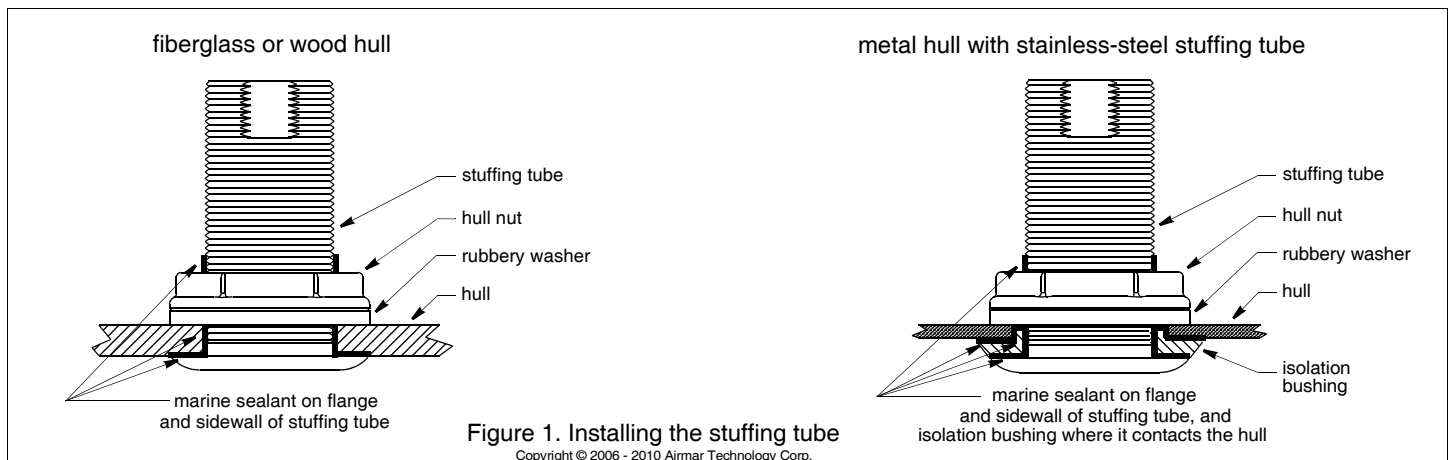

Figure 1. Installing the stuffing tube
- Use marine sealant to seal the hull and hold the hull nut. Apply a 2mm (1/16") thick layer of marine sealant around the flange of the stuffing tube that contacts the hull and up the sidewall of the tube (Figure 1). The sealant must extend 6mm (1/4") higher than the combined thickness of the hull, rubbery washer, and the hull nut.